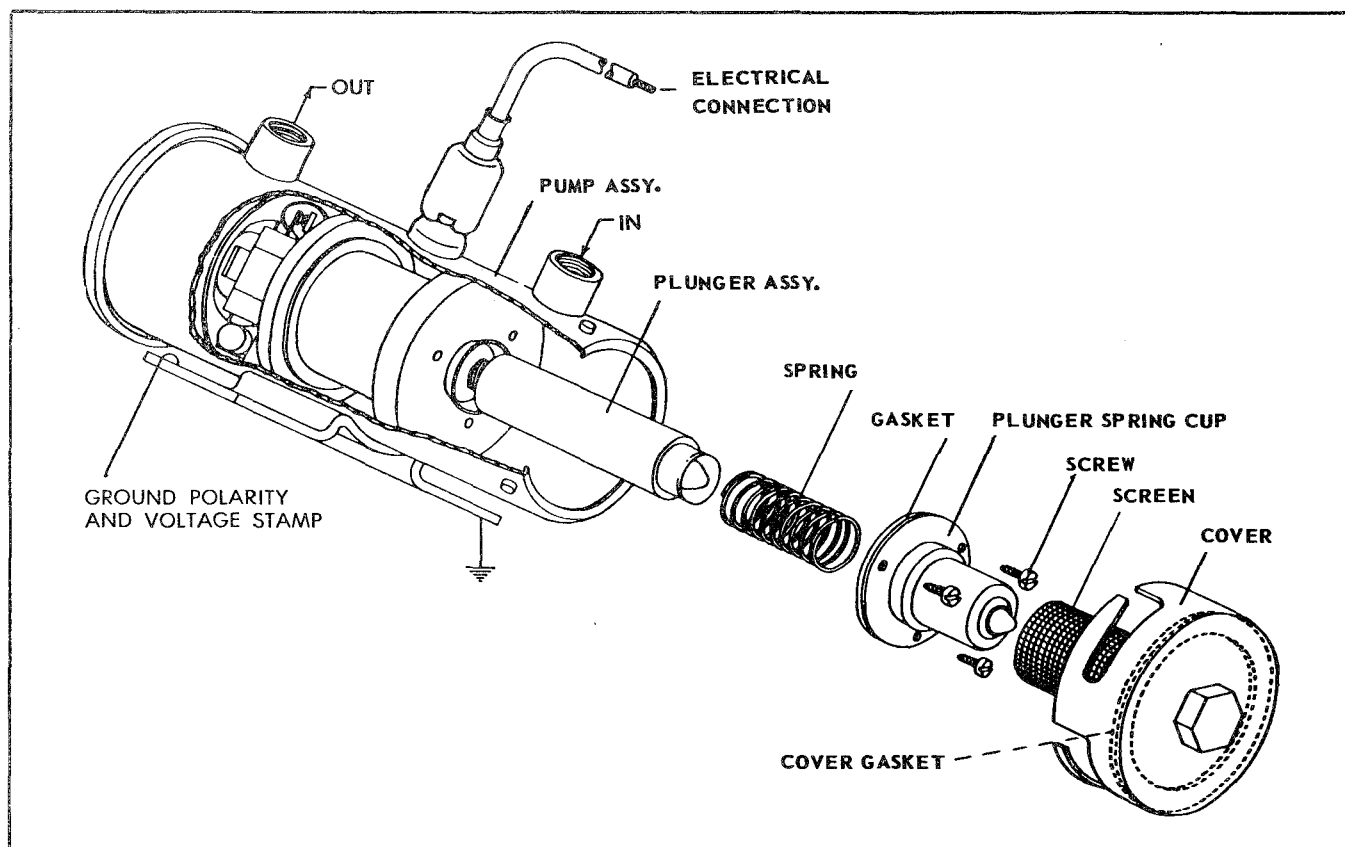

FIG. 9 – ELECTRIC FUEL PUMP
d. Remove cover and screen as for cleaning screen, and remove three screws from plunger spring cup (refer to Fig. 9).
h. Reassemble plunger (see Fig. 9). Check the fit of the plunger by slowly raising and lowering the plunger in the cylinder.
i. Reassemble other parts (see Fig. 9), and reasonably tighten the screws to insure a good seal, but avoid too much force, which will distort the plunger cup or strip the threads. Assemble the screen, cover and gasket, making sure the gasket seals properly.